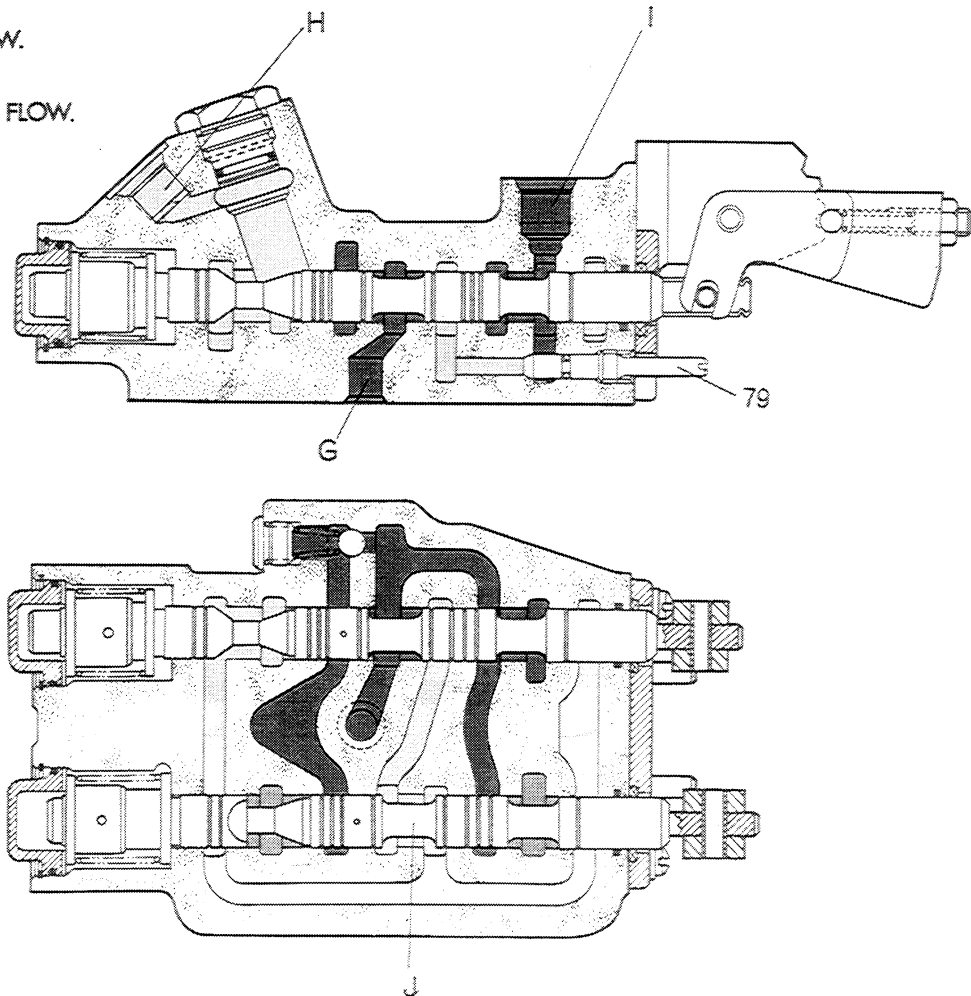

FIG. 12
**Double-Acting Lowering (Lever Forward) (Fig. 12)**
Oil (red) is drawn into the auxiliary pump through the filter and pumped, under pressure, to the manifold on the p.t.o. side cover. The oil is then piped into the Wooster spool valve inlet port, where, due to spool positioning, it flows straight out again through the exhaust port on the valve (see Fig. 12). The oil (now yellow) flows down the return pipe to the p.t.o. cover, where it is piped back into the hydraulic pump. As approximately 25% of the oil delivered by the pump is required to operate the Multi-power and does not return to the pump, the required quantity is drawn through the filter.